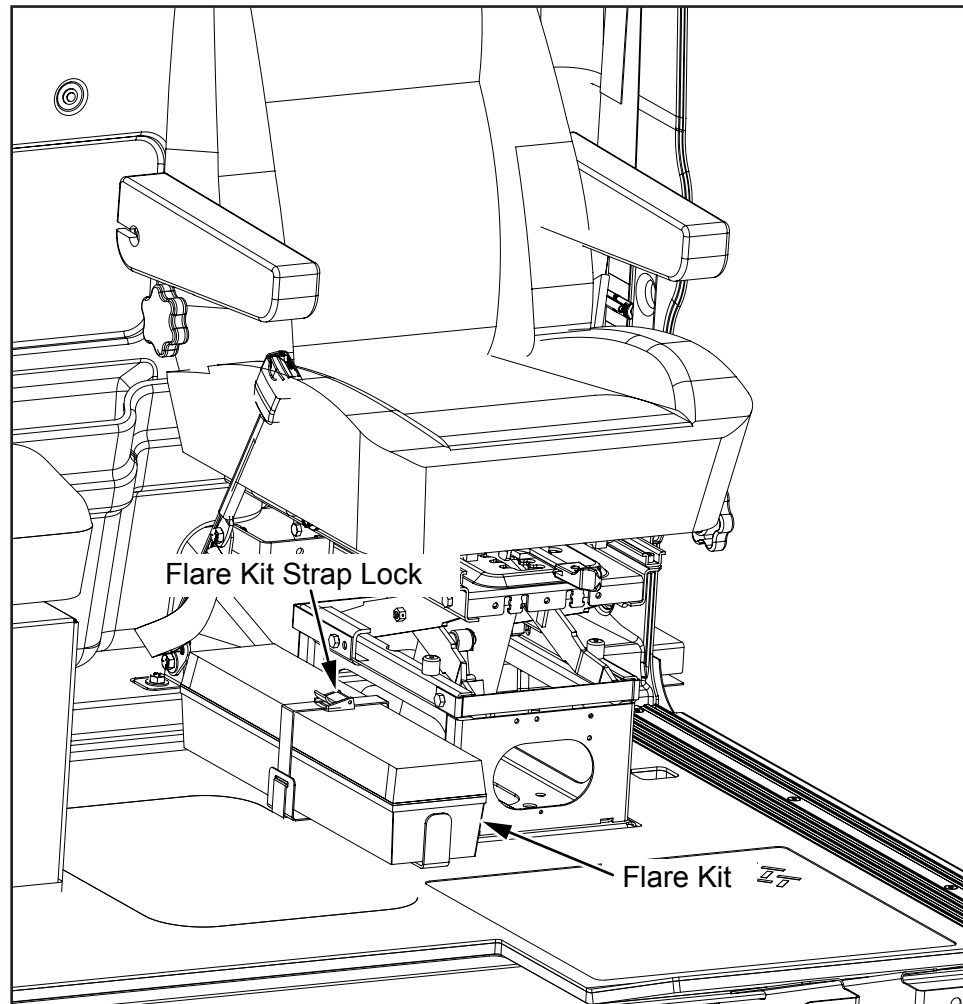

Figure 23
24. Install the flare kit and lock the strap (see *Figure 23*).